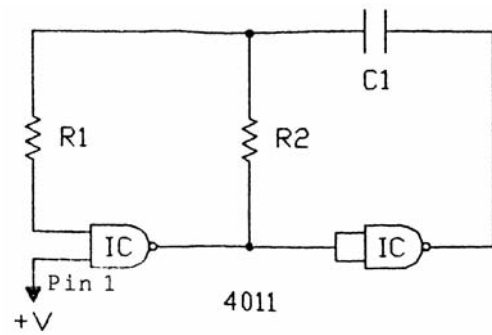

Figure 3
The SM-200K uses two oscillators. The first oscillator produces a frequency of about 2000 hertz (cycles per second) and the other produces a frequency of about 20 hertz. Figure 3 shows the basic oscillator circuit. The 4011 integrated circuit (IC) contains four two input NAND gates. Two of these NAND gates are needed to form an oscillator. Feedback for this oscillator is via capacitor C1 and resistors R1 and R2. These elements determine the frequency of oscillation. Both ICs act as inverters, that is when the input is low the output is high. As long as pin 1 of IC is high the circuit will oscillate. If pin 1 is brought low, the circuit will stop oscillating.